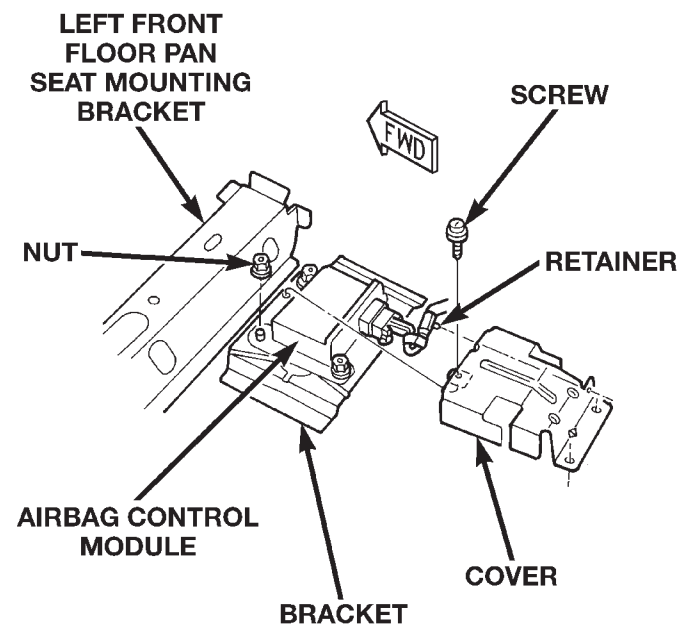

Fig. 12 Airbag Control Module Remove/Install
(1) Disconnect and isolate the battery negative cable. If the airbag has not been deployed, wait two minutes for the system capacitor to discharge before further service.
(2) Remove the left front bucket seat assembly as described in Group 23 - Body.
(3) Remove the three screws that secure the Airbag Control Module (ACM) protective cover to the left front floor pan and the ACM mounting bracket (Fig. 12).